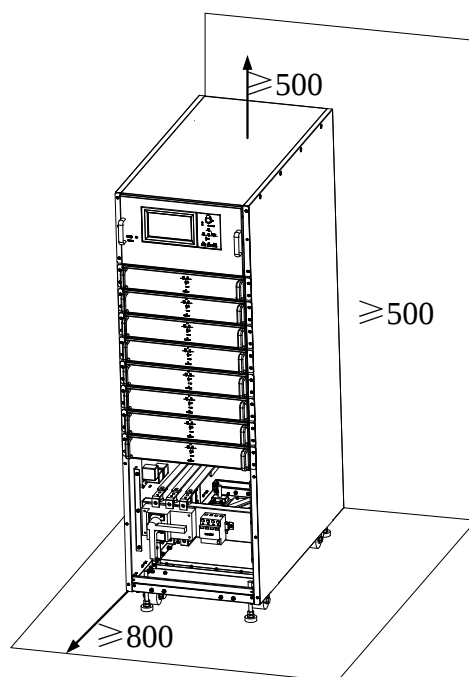

Figure 3-5 Cabinet space reservation schematic (unit: mm)
- Reserve at least 0.8 meters in front of the cabinet to replace the power module and bypass module. The cabinet should be reserved for at least 0.5 meters space in back for air flow and heat dissipation, as Figure 3-5 shows.